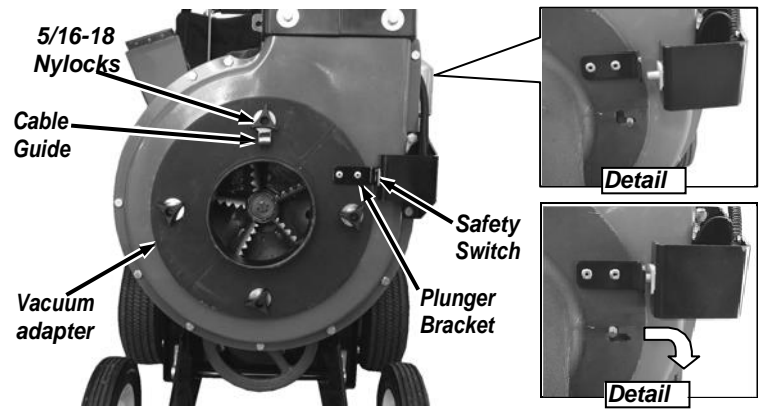

Figure 25
- Place the Vacuum Adapter onto the front of the Housing (**Figure 25**) so the studs are located in the right-hand side of the lower slots (**Detail A**). Slide the Adapter to the right and down so the Plunger Bracket on the Adapter pushes the Safety Switch in (**Detail B**).